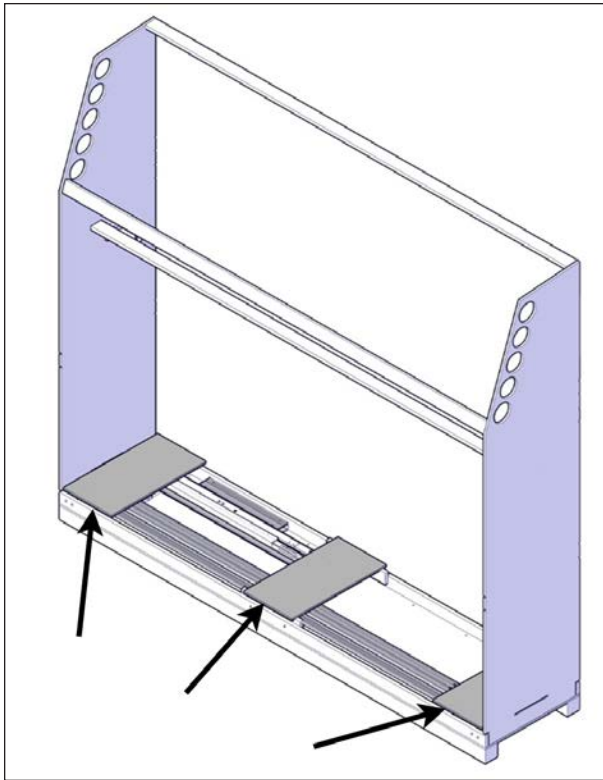

FIGURE 29: BASE PLATE
12. Pry off the three base plates of the crate using your hand or a hammer if needed see Figure 29.